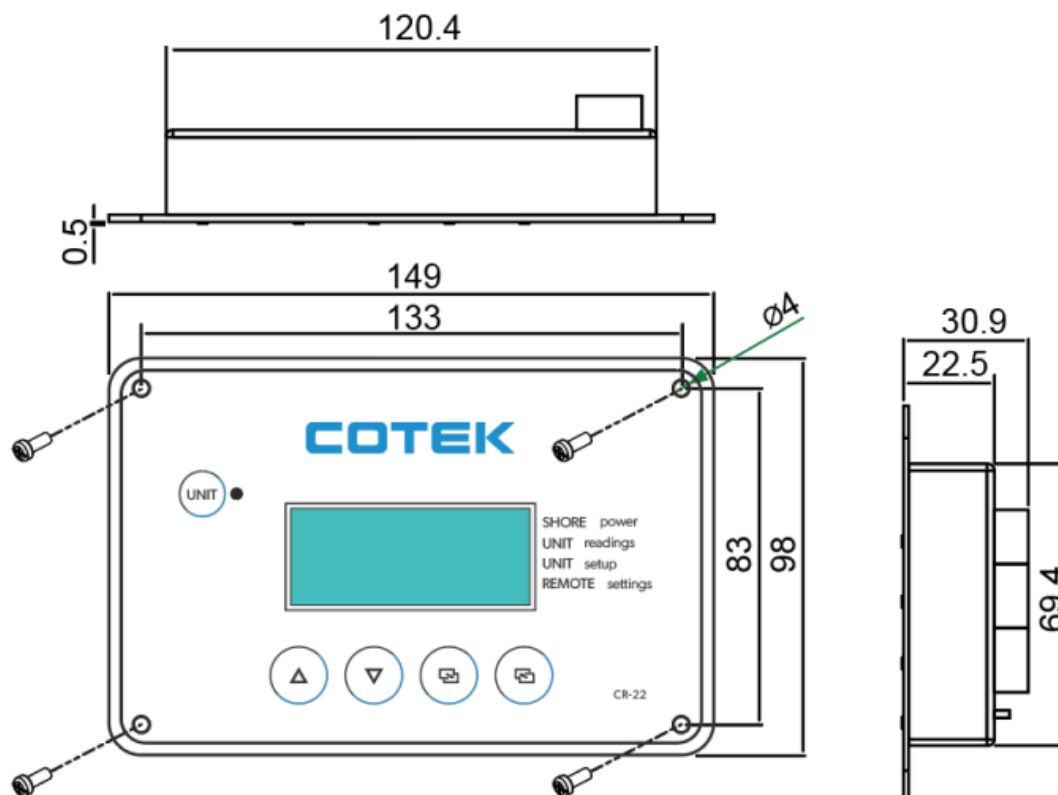

Fig. 1 (Unit: mm)
- Mount the remote base to the wall using the 4 screws provided. Please refer to Fig. 1